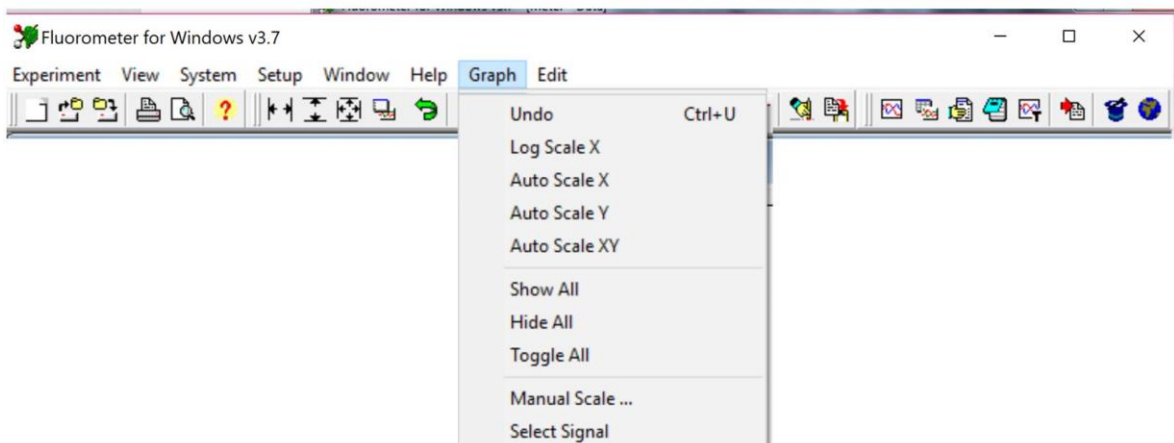

Fig. 20 Graph menu.
- The Graph window presents the experimental data. The graphic presentation can be adjusted by **Graph menu** on the upper bar (Fig. 20).